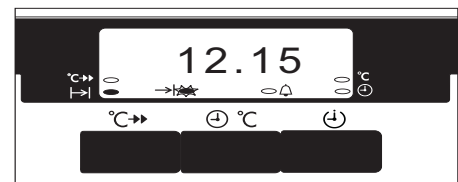

Fig.13
- i) To stop the sound press any of the buttons, as Fig. 13.